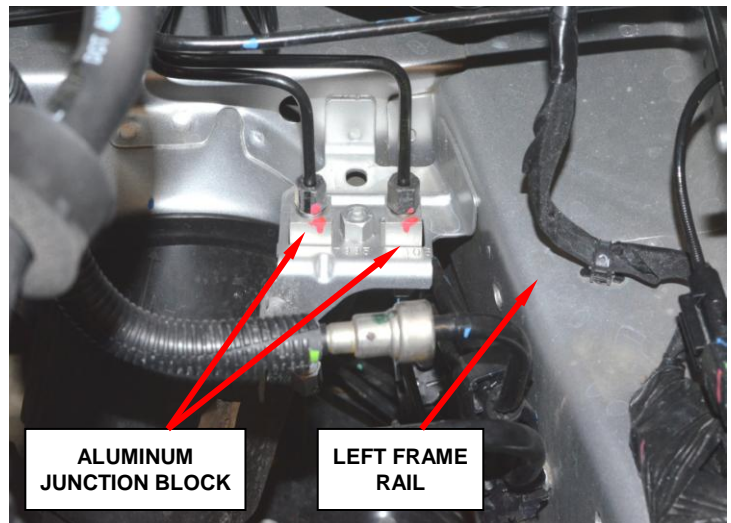

Figure 17 – Aluminum Junction Block and Bracket
22. Disconnect the rear brake steel tubes for the rear brakes at the aluminum junction block located under the power brake booster (Figure 17).
23. Remove and discard the aluminum junction block. Save the junction block mounting bolt (Figure 17).
58. Install the new aluminum junction block (Figure 17).